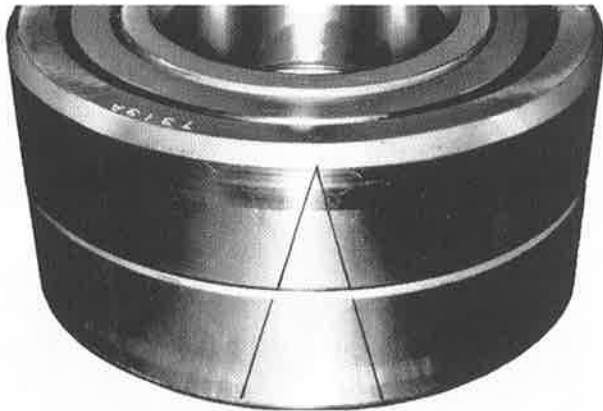

Fig.105 "V" mark of thrust bearing setting
c) The thrust bearing should be positioned so that the apex of the 'V' (ref.FIG.105) inscribed on the bearing is on the rotor side.
d) Next fit the lock washers (40), fasten the locknuts (39) and fix the inner ring the thrust bearing on the shaft. In this case, it is better to renew the lock washer so the same claw is not bent again.